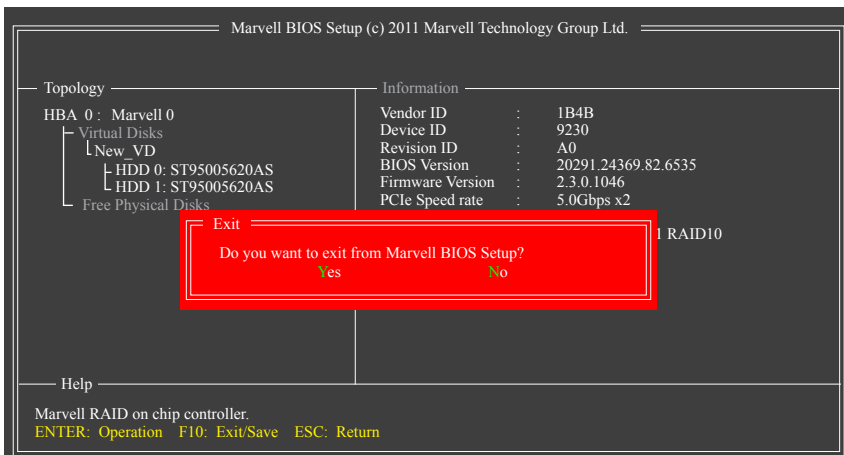

Figure 7
**5. Save the Settings and Exit.** After you complete the RAID configuration and before you exit the configuration screen, be sure to press <F10> in the main screen. Press <Y> to confirm or <N> to cancel (Figure 7). Now, you may proceed to the installation of the SATA driver and operating system.